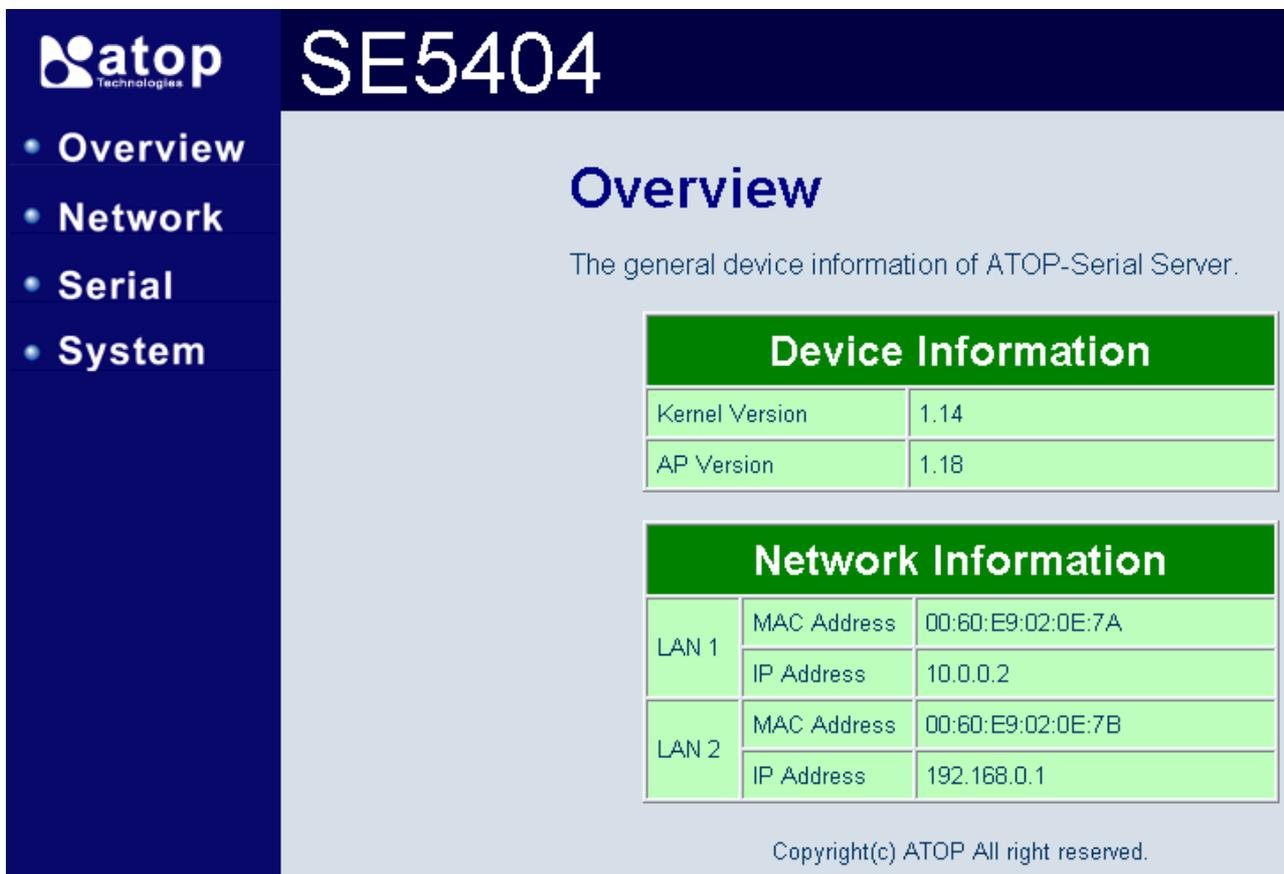

Figure 3.20 Overview
3. The following overview screen shall appear (Figure 3.20)